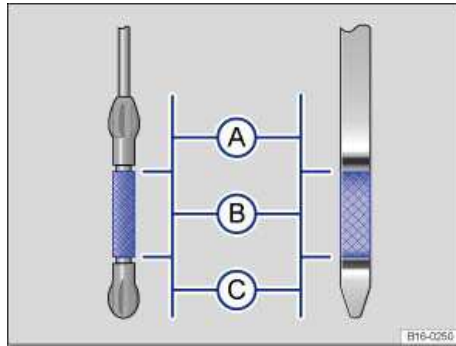

Fig. 154 Oil dipstick with engine oil level marks.
7. Remove the dipstick again and read the oil level on the dipstick ⇒ fig. 154 as described below:
- (A): **Do not** add any oil ⇒ . Continue with step 15.
- (B): Oil may be added, depending on the oil level. Continue with step 8 or step 15.
- (C): **You must** add oil (about 1 quart / 1.0 liter). Continue with step 8.
13. After adding oil, the level must at least be in the center of the ⇒ fig. 154 \(B\) area, but never above (B) ⇒ .